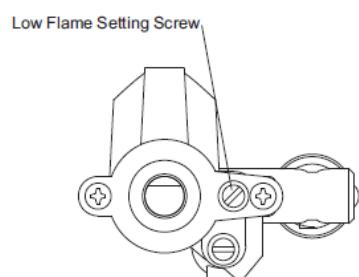

Figure 2 - Low Flame Setting Detail
- m) LOW FLAME setting can be adjusted by means of a screw on control front (*refer to Figure 2*). If necessary, adjust flame by following procedure:-